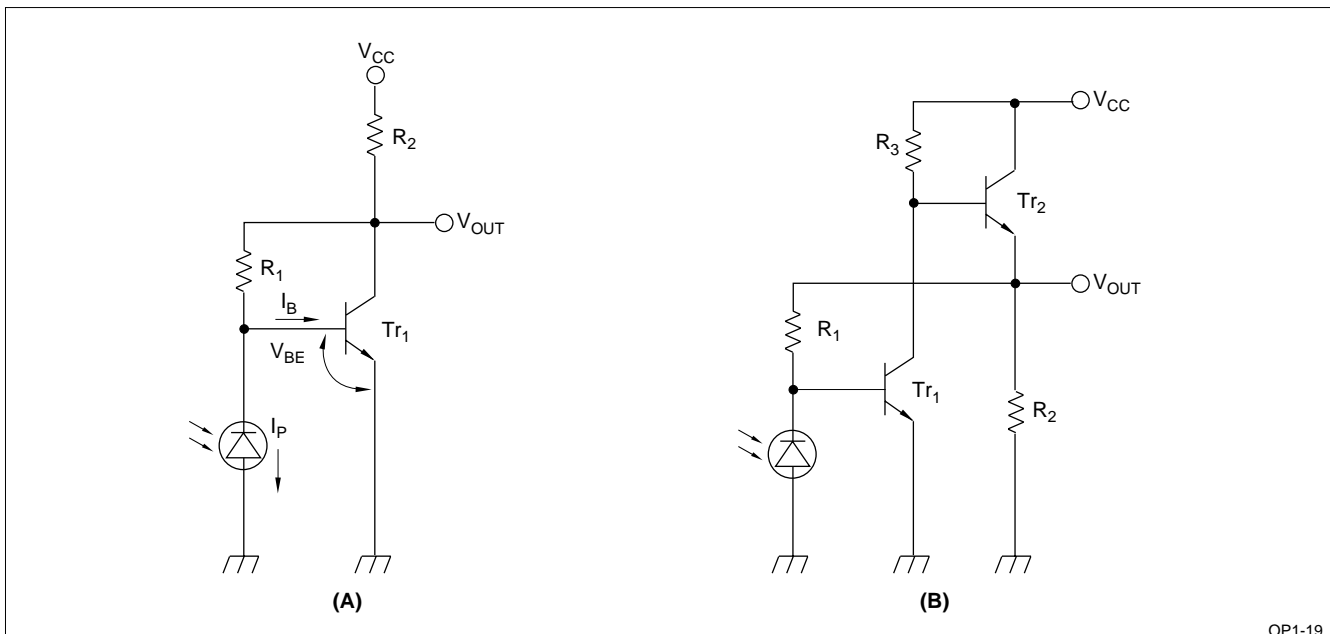

Figure 4. Photocurrent Amplifier Circuit with Negative Feedback
Figure 4 shows simple amplifiers utilizing negative feedback.
In the circuit of Figure 4 (A), the output (V_{OUT}) is given as:
The circuit of Figure 4 (B) has an additional transistor (Tr_2) to provide a larger output current.